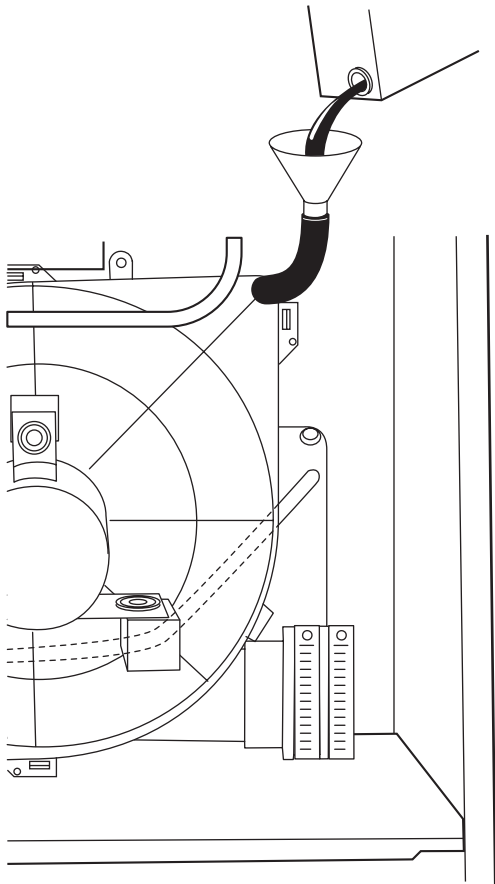

Fig. 42 – Filling Condensate Trap
- Pour 1 quart of water into funnel/tube. Water should run through inducer housing, overflow condensate trap, and flow into open field drain. (See Fig. 42.)